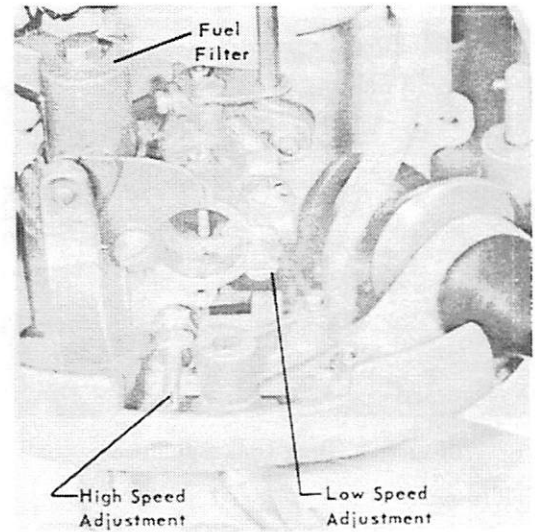

Figure 1, Carburetor Adjustments
1. Engines Not Having High Speed Fixed Jet for Mark 10-10A-15A§ (Figure 1)